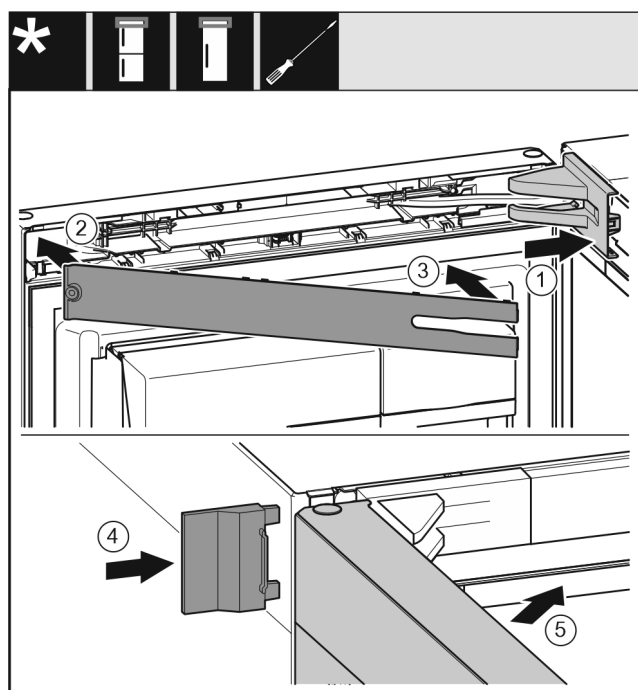

Fig. 50
- Position the swap bearing block cover Fig. 50 (1) and snap it in. You may need to push it carefully apart.
- Attach the cover Fig. 50 (2).
- Cover Fig. 50 (3)
- Slide on the outer cover Fig. 50 (4).
- Close the top door Fig. 50 (5).